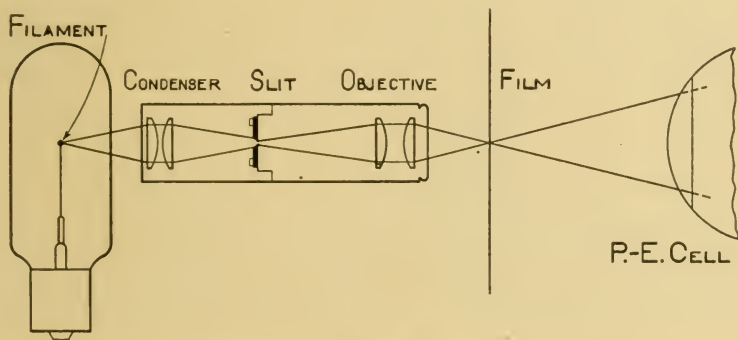
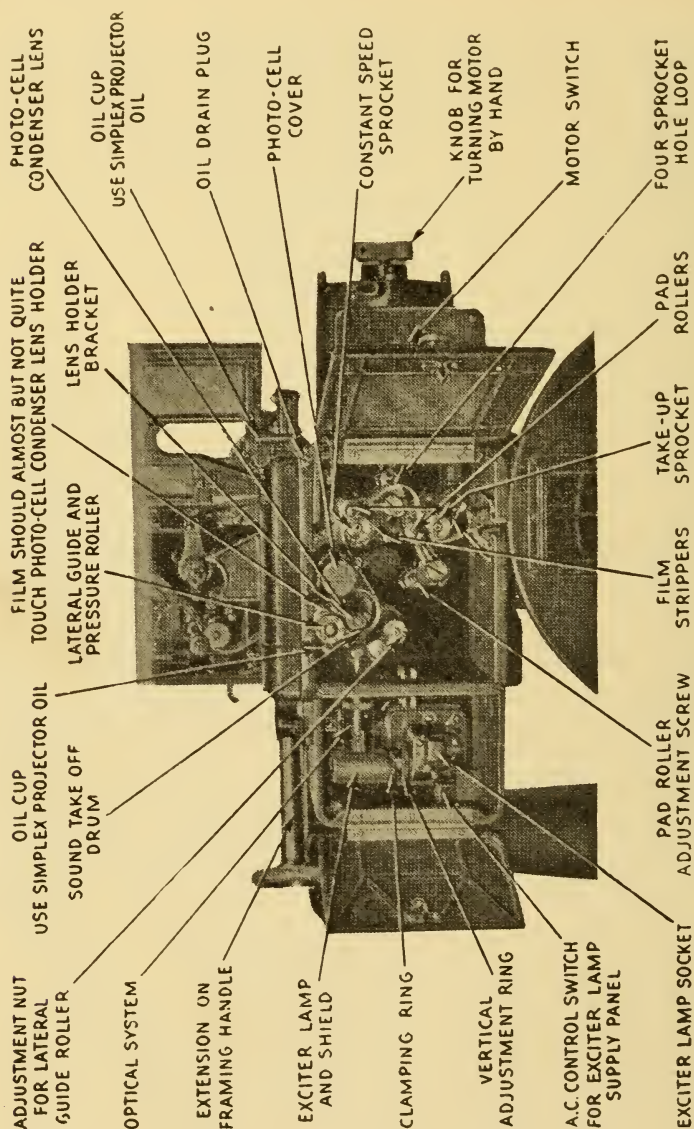

FIGURE 117
FIG. 123.—RCA Photophone Soundhead with Rotary Stabilizer.
Figure 117 is an accurate diagram of the essentials of a film reproducing system. It shows the position of the photo-electric cell with relation to its light source and to the moving film upon which a sound record has been
photographed. Figure 118 is a photograph showing the apparatus diagrammed in Figure 117. By studying these two illustrations the real simplicity of the film reproducing system will readily appear.
To the right of the lamp, in Figure 117, is an oblong case containing two sets of lenses, and a "slit." This is
To the left of the lens tube, in both pictures, is the exciting lamp. In Figure 118 the lamp is hidden behind its metal shield. (2) The action of the lens tube upon the exciting light is clearly diagrammed in Figure 117. The moving film appears in Figure 117 as a vertical line. In Figure 118 the film shows up white (blank leader was used to make the photograph). It is firmly clasped by the "sound gate" or "tension pad" at the point where it passes through the light coming from the lens tube. The photo-electric cell shown in the diagram cannot be seen in the picture. It is located in the photo-cell compartment just to the right of the sound gate.
(3) The sound gate holds the film in such fashion that it is free to slide downward. It is pulled downward, of course, by the sprocket that shows below and just to the left of the gate. But the pressure on the film as it passes through the gate is such that it cannot move in any other direction except downward. It cannot move forward or back out of the focal point, shown in Figure 117 as the place where the light rays from the slit assembly's objective lenses are focussed.
The function, therefore, of the slit assembly diagrammed in Figure 117 is to reduce the height of the beam of exciting light to the dimensions necessary for highest frequency of sound desired.
Figure 123 shows a sound-head in which the beam of the exciting light is bent upward by the "Photo-cell condenser lens." The photo-cell, in other words, is not located in a straight line with the lens tube, as in Figure 117, but a bit above it. The light beam is bent upward after it has passed through the sound track.